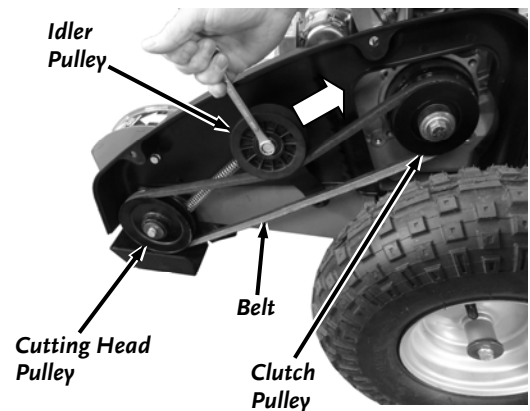

Figure 45
2. You should wear Gloves as you position a 9/16" Wrench onto the Idler Pulley Bolt and inline with the Pulley Bracket (**Figure 45**). Pull the Wrench to rotate the Belt Tensioner away from the Belt and then remove the Belt by rotating the Cutting Head to roll the Belt over the top of the Pulley.